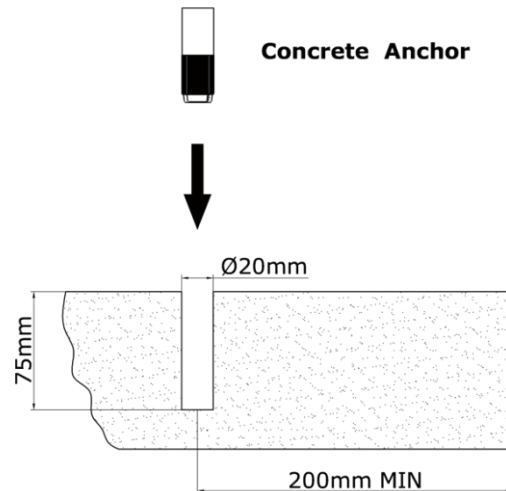

Figure 1
3) Insert the wedge anchor M16 into the pre-drilled hole. You can hammer the anchor to ensure the anchor hits the bottom of the hole. Check as Figure 1